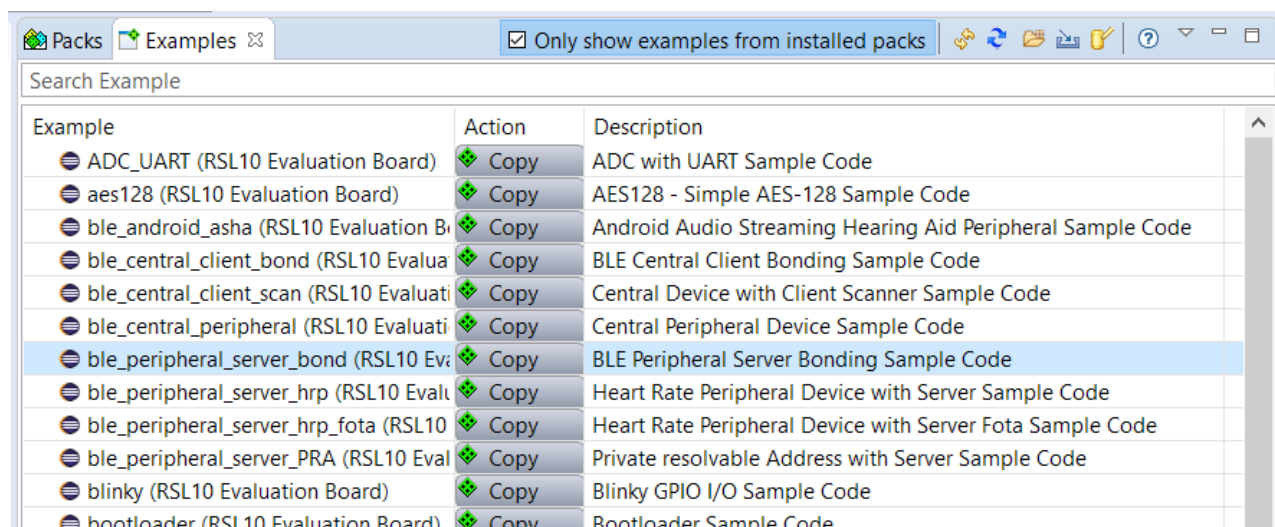

Figure 13. Bringing the Project Into the Workspace
1. Copy the *ble_peripheral_server_bond* sample application into your workspace. The C/C++ perspective opens and displays your newly copied project, as shown below in the figure "Bringing the Project Into the Workspace" (Figure 13).